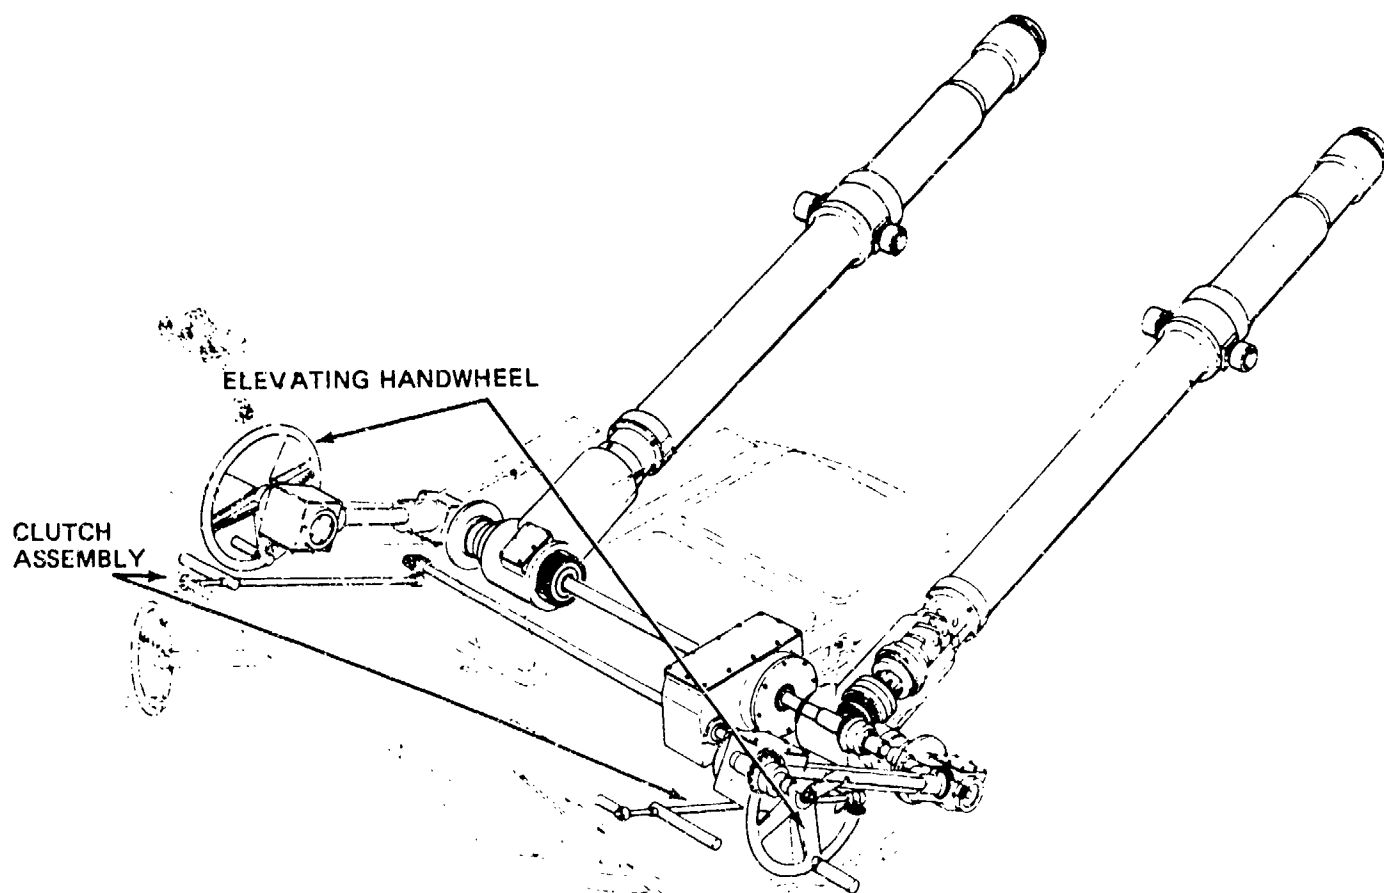

Figure 6-8. Elevating mechanism assembly—interface of internal components.
*b. Elevating mechanism.* The elevating mechanism (fig 6-8) controls the movement of the weapon in elevation. The type elevating mechanism is screw assembly with a clutch assembly to provide irreversibility. One turn of the elevation hand wheel moves the tube up or down approximately 10 mils.